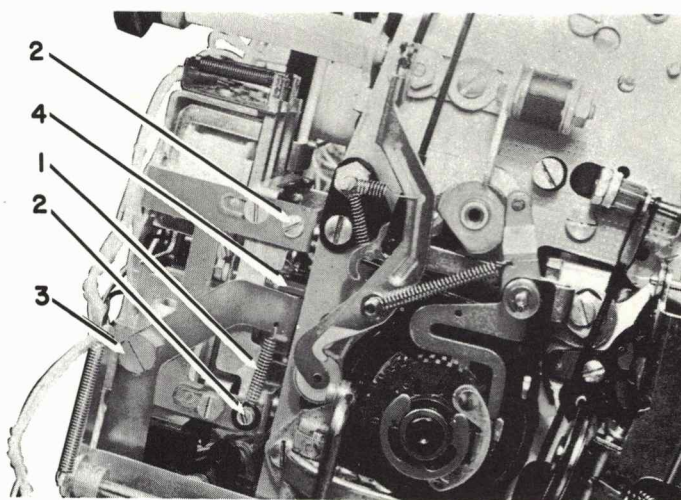

FIGURE 43. Operational Magnet Assembly Removal
2. Remove the actuator-arm spring (#1, Figure 43).
3. Remove the two mounting screws (#2, Figure 43).
4. Remove the actuator-arm pivot screw (#3, Figure 43).
5. Remove the armature-link clevises (#4, Figure 43).